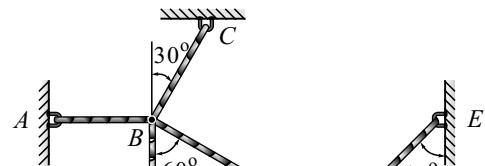

Fig. 3.E8
9. Two equal loads of 2500 N are supported by a flexible string $ABCD$ at points B and C as shown in Fig. 3.E9. Find the tension in the portion AB , BC , CD of the string.